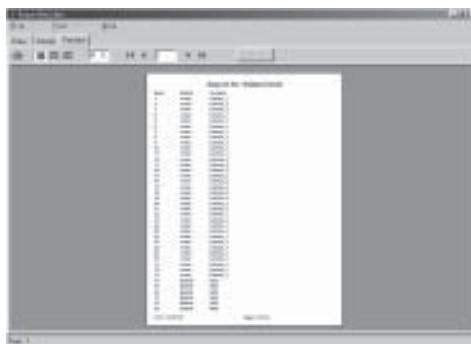

Fig. 8-15 Design the Body of the Report
3.3 Design the Body of the Report. For example, as in Fig. 8-15, set the **fields** such as Index, Station, FAB Name and so on.